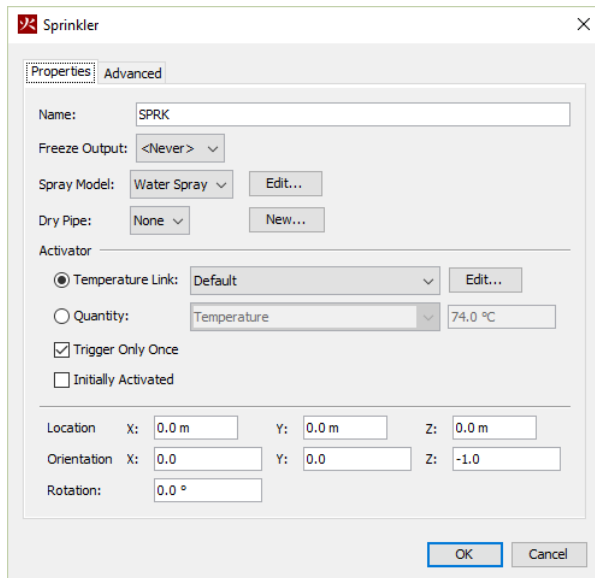

Figure 15:2. Creating a new sprinkler
1. On the **Devices** menu, click **New Sprinkler**. This will display the **Sprinkler** dialog, Figure 15:2.